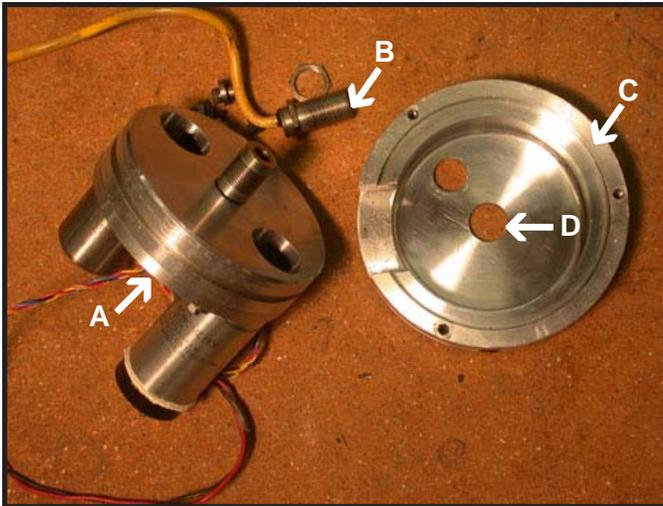

Figure 4.1.9
Reinstall mounting plate (Figure 4.1.9 - C) and slide encoder over the end of the ball screw until it is properly seated. Using a marker, mark the mounting slot (A). **DO NOT USE A CENTER PUNCH TO MARK HOLE WHILE ENCODER IS IN PLACE.** Remove encoder and mounting plate. Center punch and drill (#36) and tap for a 6-32 screw in the center of the area marked earlier. If X axis motor is being replaced, refer to Chapter 4, HNC/CHNC Common Tasks 4.3.